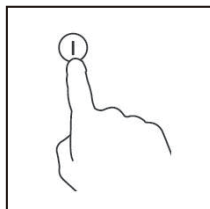

Fig.1
1. Touch the ON/OFF ① control, all the indicators show “-”. (Fig.1)